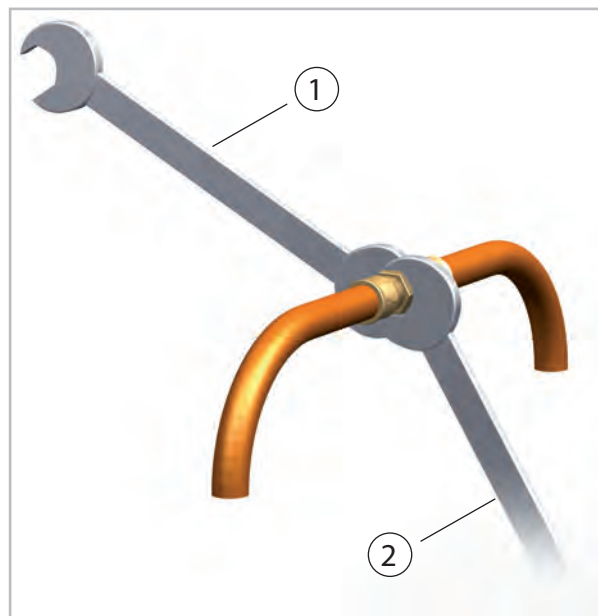

Fig. 79: Tighten fittings
- Make connections to the device by hand initially, in order to ensure a good fit. Later, tighten the joints with two open-end wrenches. Use one wrench to resist the rotation of the other (Fig. 79).